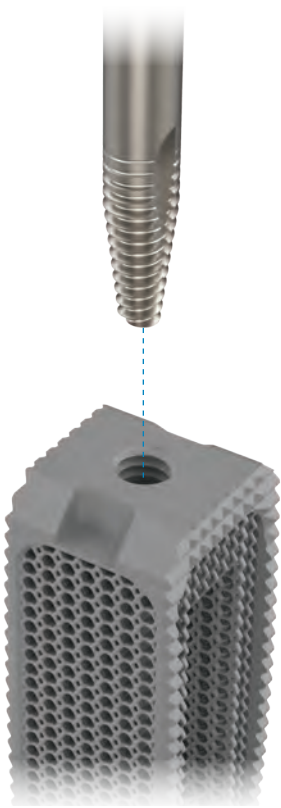

Figure 15
- Attach either the inserter or universal removal instrument in a clockwise rotation to the implant (Figure 15). Be careful to avoid pushing the implant anteriorly. A slap hammer or slotted mallet may be used in conjunction with the inserter for removal of the implant if desired. To use, apply an upward force to the slap hammer. Repeat until implant is removed from the intervertebral disc space.